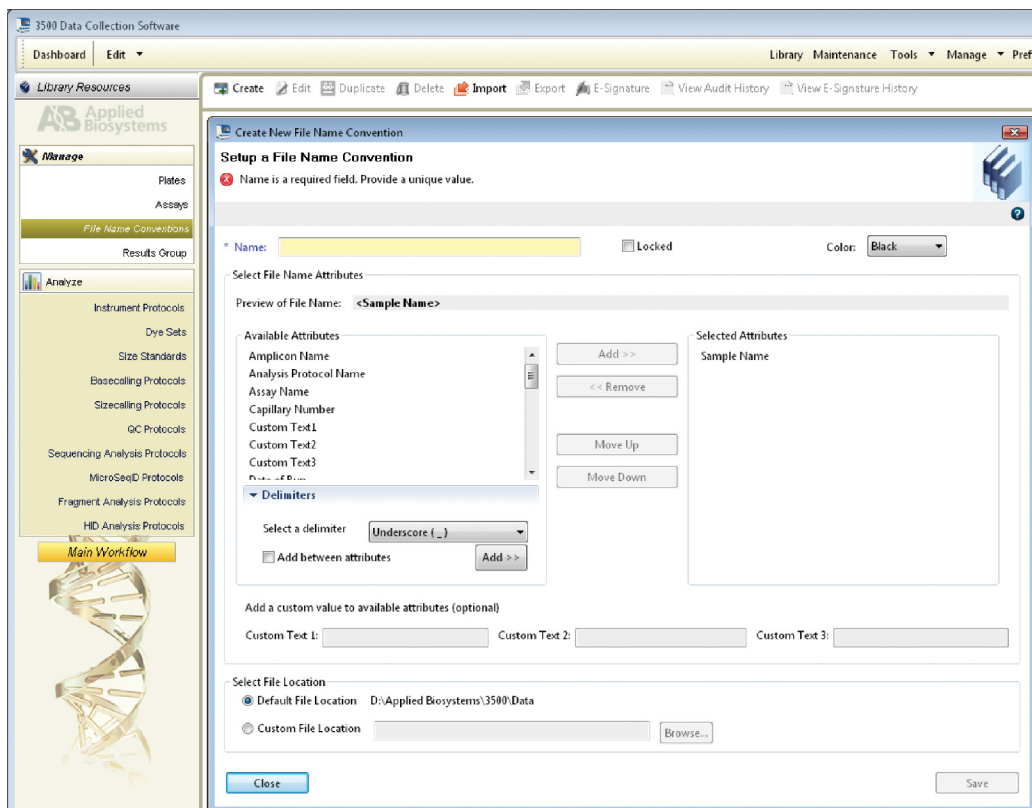

Figure 6. The 'Create New File Name Convention' window.
- To create a new File Name Convention (Figure 6), navigate to the Library. Select **File Name Conventions**, then select **Create**. Alternatively, a previously created File Name Convention may be used. Select the File Name Attributes according to laboratory practices, and save with a descriptive name.